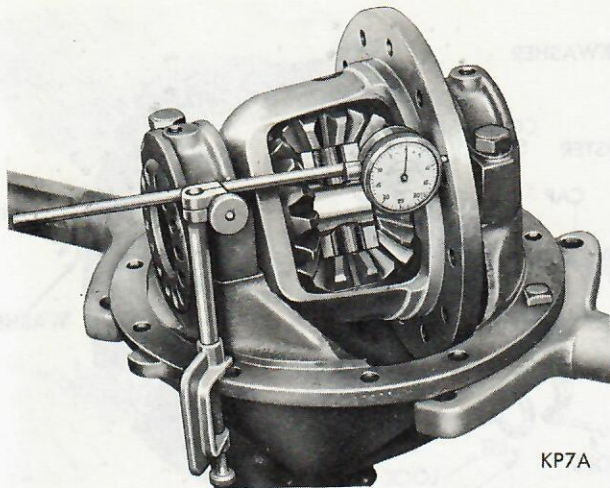

Fig. 19 Checking Drive Gear Mounting Flange Runout case as follows: Install differential case and respective bearing cups in carrier.
(4) Install bearing caps, cap bolts and bearing adjusters. Tighten bearing cap bolts down lightly and screw in both adjusters with spanner wrench Tool C-406A.
(5) Tighten cap bolts and adjusters sufficiently to prevent any side play in bearings.
(6) Attach a dial indicator Tool C-3339 to carrier flange so pointer of indicator squarely contacts drive gear surface of differential case flange between outer edge flange and drive gear bolt holes (Fig. 19).
(7) Rotate differential case several complete revolutions while noting total indicator reading. This reading must not exceed .003 inch runout. If runout is in excess of .003 inch, differential case must be replaced. **In a case where the runout does not exceed .003 inch it is often possible to**